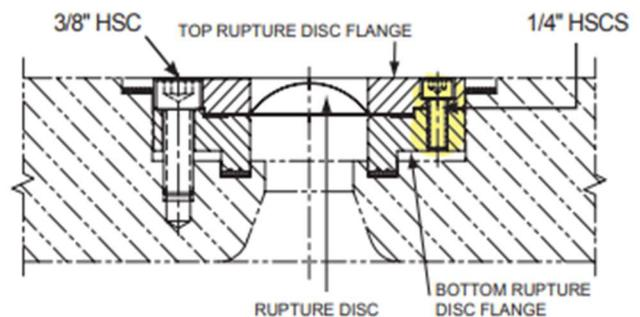

Figure 20 - Rupture Disc and Disc Flange
- Torque of rupture disc holder cap screws (highlighted in Figure 20, below) is **currently** specified in the IOM excerpt shown here: